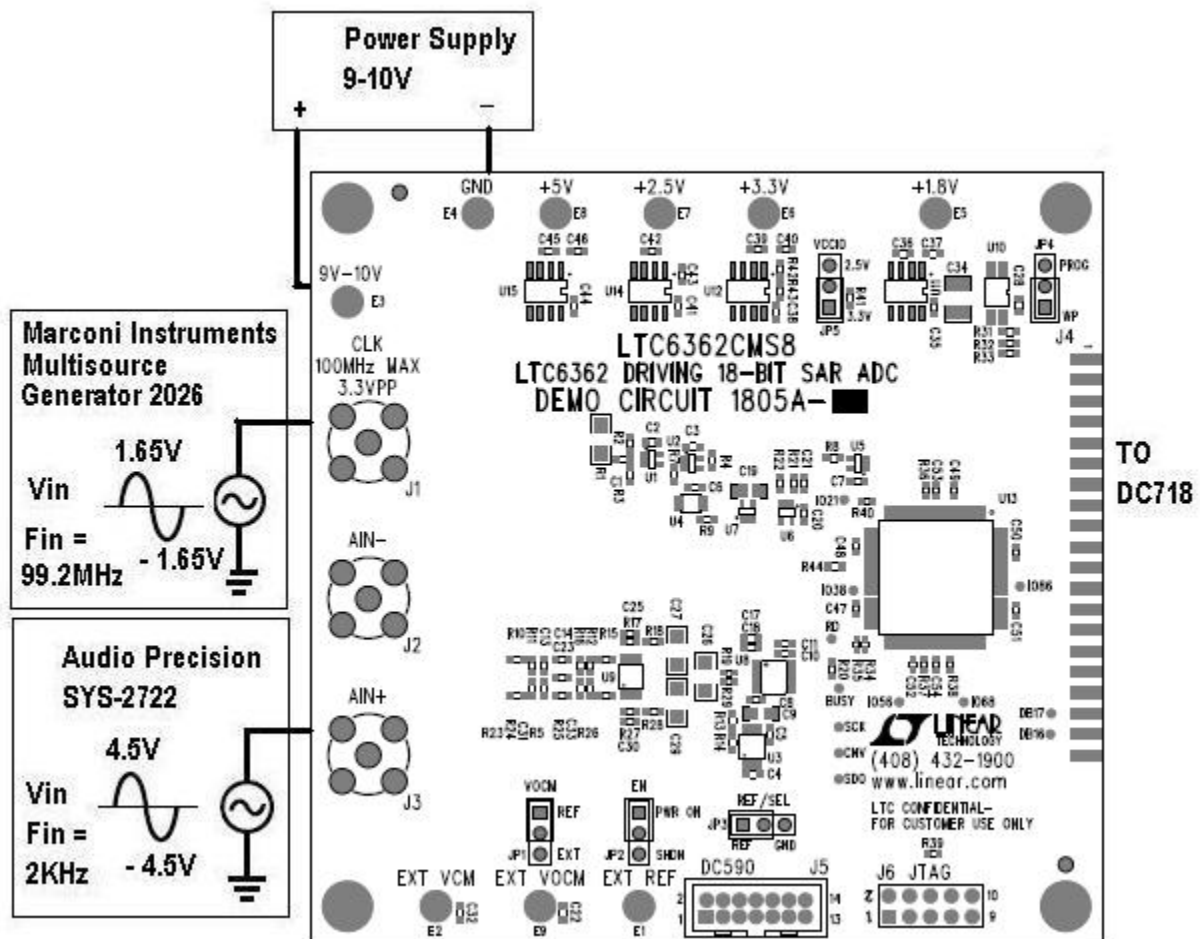

Figure 2. DC1805A Test Diagram
This board is tested by measuring the distortion at the differential output given a  $-1\text{dBFS}$ , 2kHz single-ended input as shown in Figure 2.
- 1) Make sure that all the jumpers are set as shown in Figure 2 (DC1805A Test Diagram).